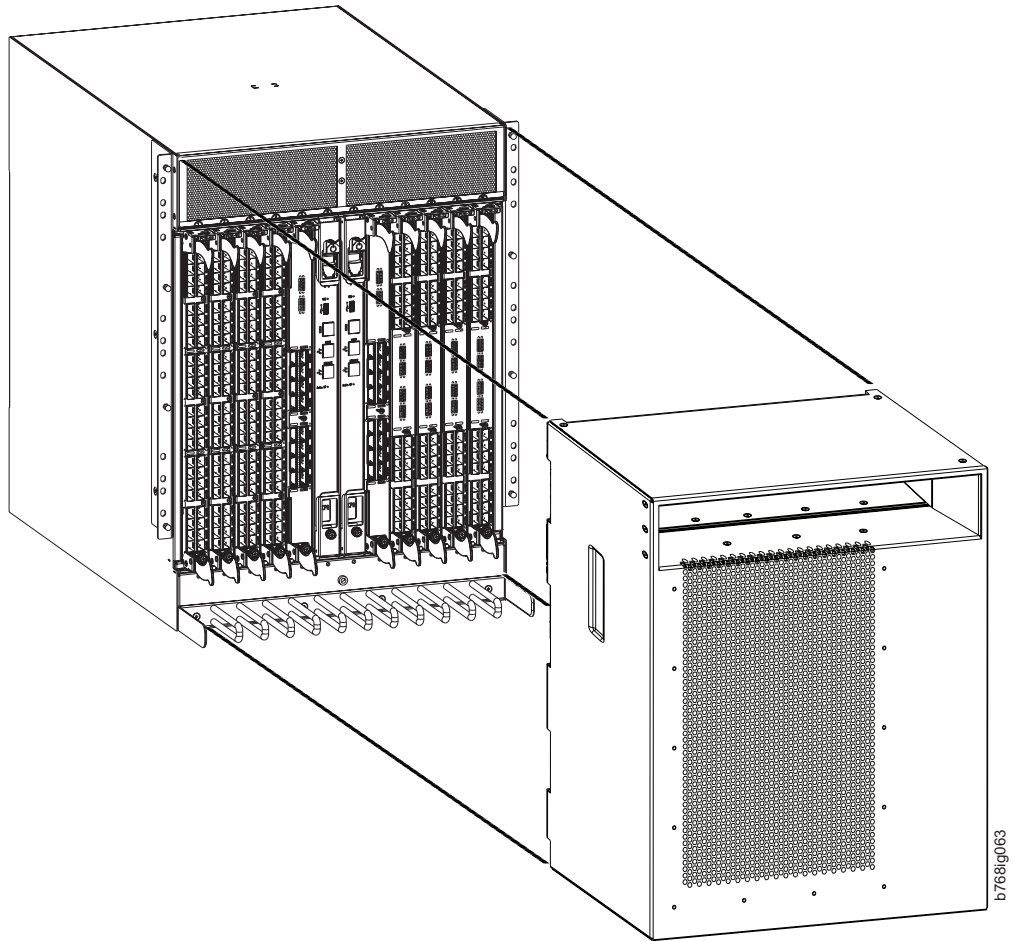

Figure 27. Chassis door
2. Pull and remove the door. It will pop off the ball studs (Figure 27 on page 80).
1. Align the holes in the back side of the door with the ball studs on the chassis. See Figure 27.